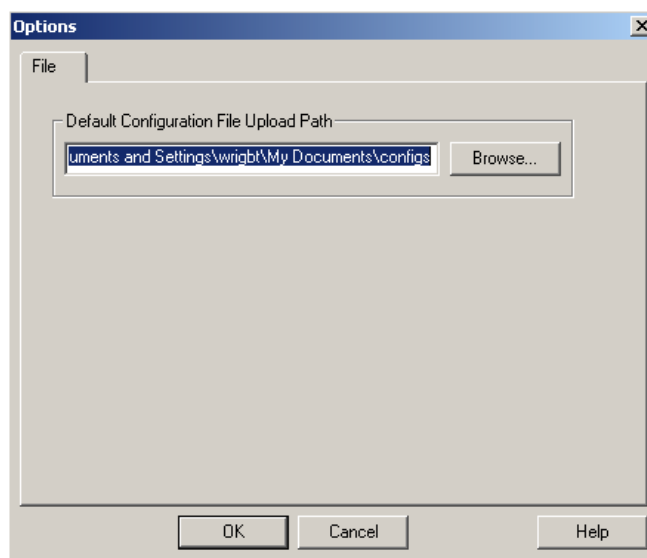

Figure 12-2 Options dialog
1. Select **Tools > Upload File Path**. The Options dialog is displayed. See Figure 12-2.